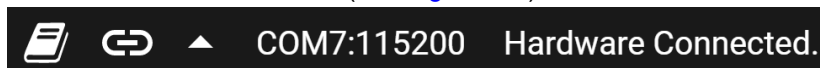

Figure 3-8. Hardware Connected Indicator
3. With the EVM connected to the GUI, close the README.md file page. The text near the bottom-left hand corner of the GUI reads *Hardware Connected* (see Figure 3-8).